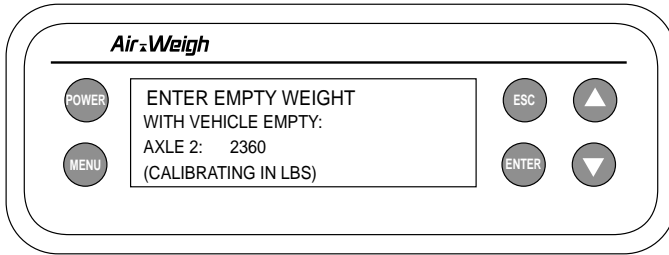

Fig. 17
- Use the arrow keys <▲ or ▼> to scroll up to the correct axle group weight, then press <ENTER>. The scale is not calibrated until <ENTER> is pressed. (See fig. 17)